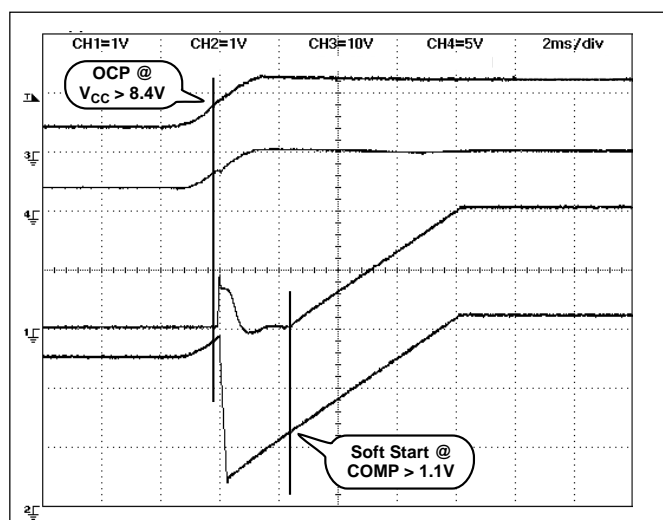

Figure 11: Startup with COMP pre-charged to 2V (2ms/div).
If the voltage across the Current Sense resistor generates a voltage difference between the VFB and VOUT pins that exceeds the OVC Comparator Offset Voltage (86mV typical), the Fault latch is set. This causes the COMP pin to be quickly discharged, turning off GATE(H) and the upper NFET since the voltage on the COMP pin is now less than the 1.1V PWM comparator offset. The Fault latch is reset when the voltage on the COMP decreases below the Discharge threshold voltage (0.25V typical). The COMP capacitor will again begin to charge, and when it exceeds the 1.1V PWM comparator offset, the regulator output will Soft Start normally (see Figure 11).